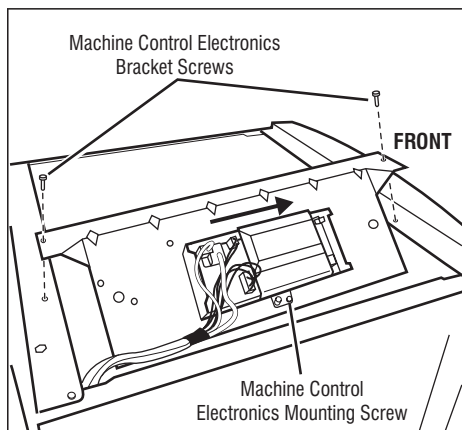
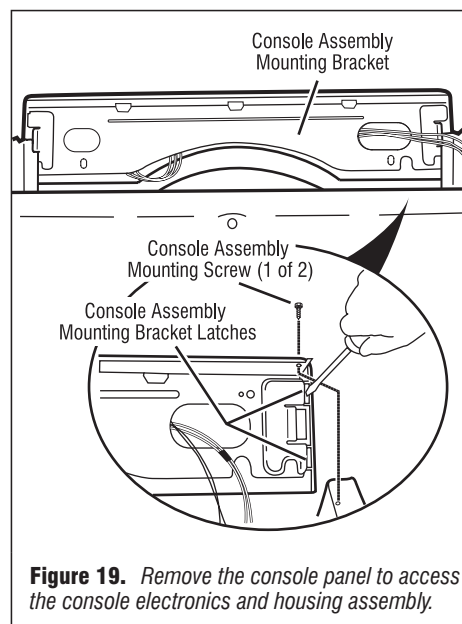

Figure 17. Remove machine control electronics from mounting bracket.
Figure 19. Remove the console panel to access the console electronics and housing assembly.
- Slide the bracket over the top of the drum to access the machine control electronics connectors and mounting screw. See figure 17.
- Remove the screw holding the machine control electronics assembly to the mounting bracket. See figure 17.
- Remove the screw that fastens the assembly to the machine control mounting bracket (figure 17), and the two screws that fasten the console assembly to the machine (figure 19).
- Slide the console up and off of the machine. See figure 19.
- The console mounting bracket is fastened to the console front panel with two latches at both sides of the console assembly. Unlatch the bracket gently with a screwdriver while pulling the mounting bracket assembly out. See figure 19.